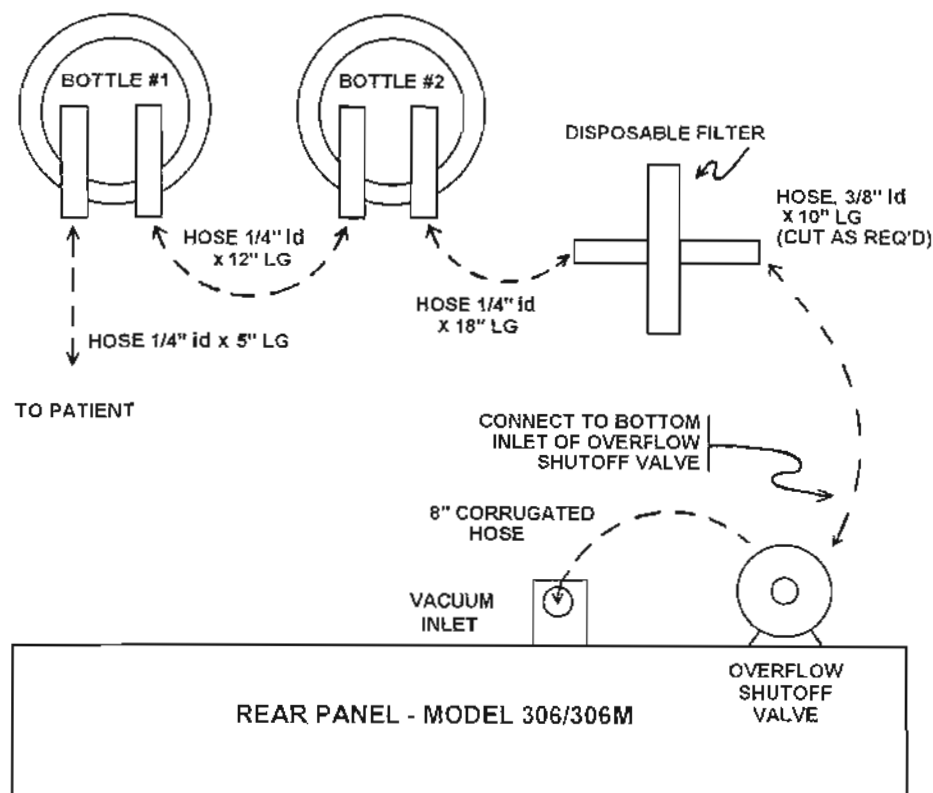

Figure 2-2. Hose interconnection.
- (3) Align the base of the suction apparatus with the cart assembly. Place spacers in mounting bracket channel and tighten securely with 10-32 screws.
(4) Casters with wheel locks prevent wheels from turning; they do not lock the swivel mechanism. Depress red button to lock wheel. Lift to release.
b. Interconnections (fig 2-2).